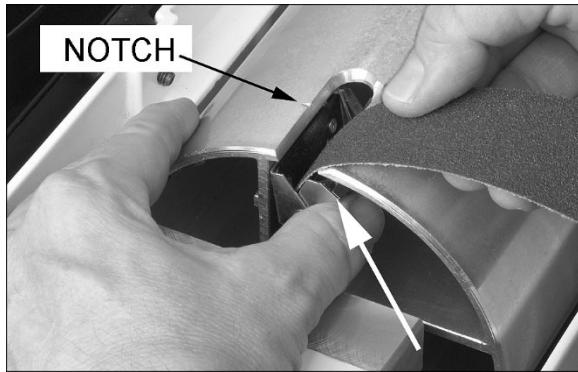

Figure 5-4
2. Press fastener lever (Figure 5-4) on outboard (left) end of drum, and insert tapered end of abrasive through slit in fastener, as shown.